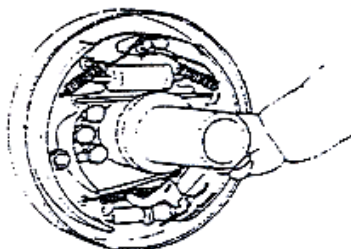

Figure 2-23
- (2) Conduct visual inspection of the piston cup for damage and deformation. Replace the cup if there is any abnormality.
- (3) Measure the free length of brake cylinder spring. Replace it if it exceeds the baseline.
- (4) Measure the thickness of friction disk. Replace it if the wear degree exceeds limit. Figure 2-23 Standard thickness: 8.0mm; Minimum thickness: 2.0mm
- (5) Conduct visual inspection on the inner surface of brake drum for damage and uneven wear. Then grind the brake drum for correction purpose and replace it if it can't be corrected.